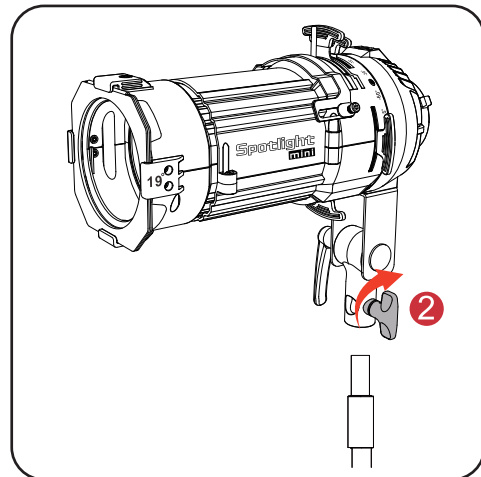

Figure 2
- 2) Rotate the tilt-lock handle in the direction shown in **Figure 2** to secure the yoke in place.